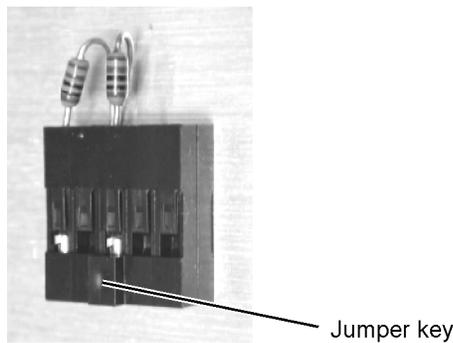
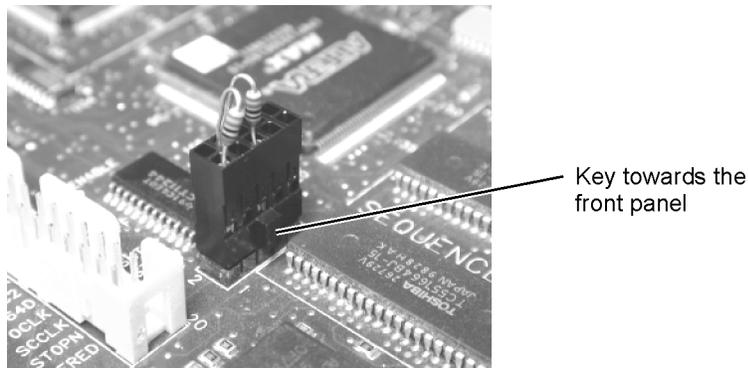

Figure 4-56. Jumper, E2660-01201
Figure 4-57. Placement of the Jumper on P12
- 3 Place the jumper, shown in Figure 4-56, on P12 so that the resistors are connected to pins 1, 4, and 5, shown in Figure 4-57. The jumper key should face towards the front panel.